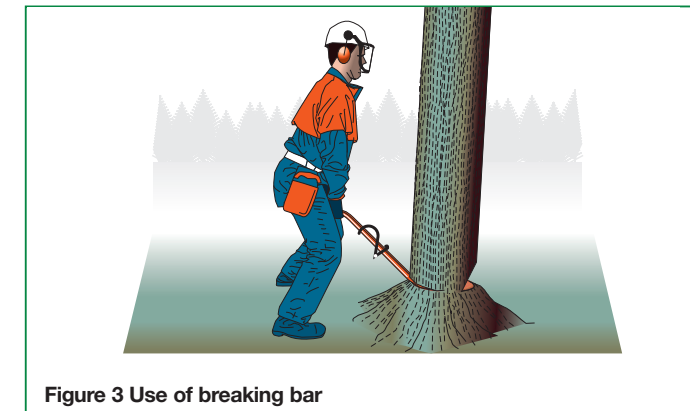

Figure 3 Use of breaking bar
- 19 Where necessary use the appropriate felling aids. When using a breaking bar to lever over the tree, keep the back straight using the legs to lift. Keep both hands on the lever (see Figure 3).